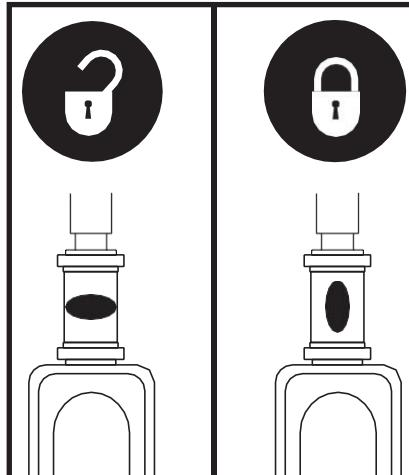

Figure 32. Tiller Lock Knob
1. Remove the key from the key switch and then lock the tiller in the straight-ahead position by pushing the tiller lock knob in and turning it clockwise 90°. **See figure 32.** The front wheel must face forward in order to lock the tiller.
6. Unlock the tiller by turning the tiller lock knob 90° counterclockwise. See **figure 32**.